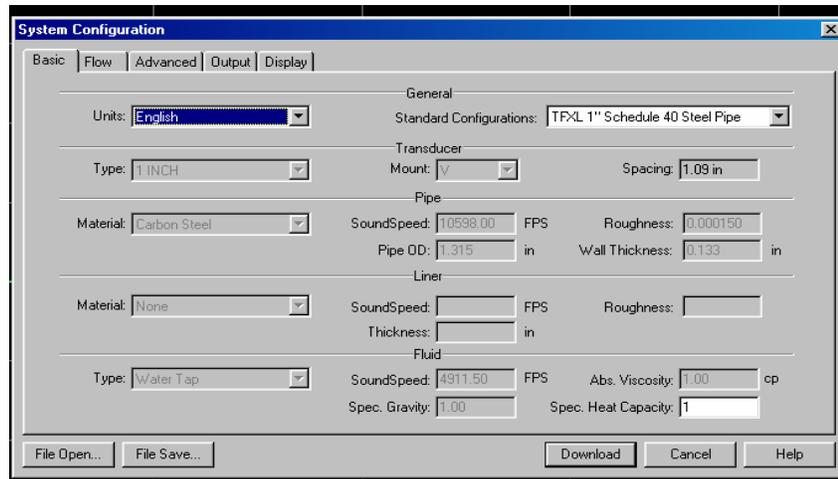

Figure 4.2
Click on the button labeled **Configuration** for updating flow range, liquid, pipe and I/O operating information. The first screen that appears after clicking the **Configuration** button is the **BASIC** tab. See **Figure 4.2**.
1. **BASIC TAB**—See **Figure 4.2**